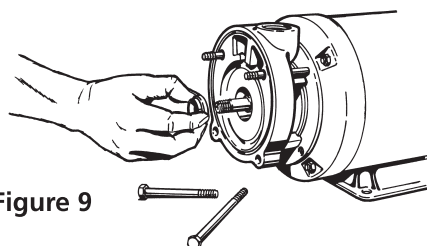

Figure 9
- a. While holding the motor bracket with the outlet port facing up, slide the bracket over the two (2) studs (Ref. No. 10) on the motor face.
- c. Install the four (4) "O" rings (Ref. No. 4) on the two studs. This will help hold the bracket in place during the remainder of the assembly operation.
- b. It is generally easier to remove the entire head or sealing assembly from the spring and install it on the motor shaft. Refer to Figure 9. This assembly lifts out of the rotating
- d. Holding the head assembly between the thumb and index finger, with the sealing face pointing toward the stationary seat, slide the assembly over the motor shaft until it rests against the seat. Refer to Figure 9. A slight twisting motion will allow the assembly to slide more easily.
- g. Align the keyway slot in the impeller driver assembly, and the key (Ref. No. 14) in the motor shaft. Refer to Figure 9.